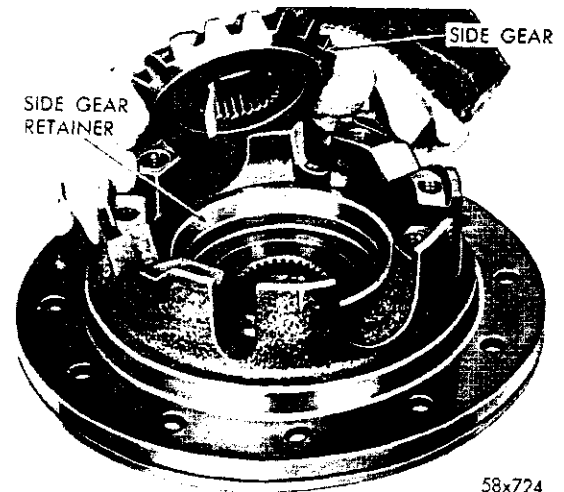
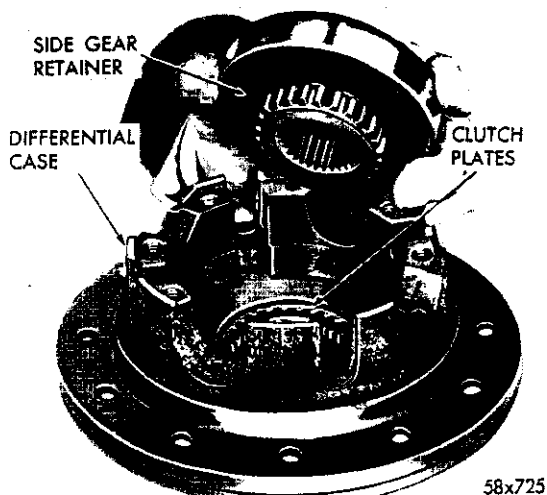
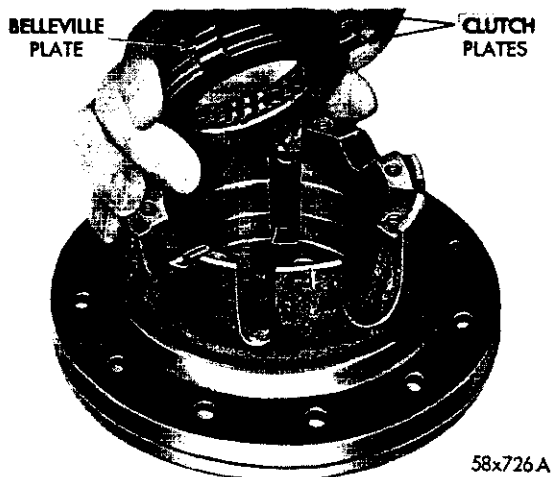

Fig. 39—Removing the Side Gear from Differential Case
Fig. 40—Removing the Side Gear Retainer
Fig. 41—Removing the Clutch Plates
(5) Remove the remaining side gear (Fig. 39), side gear retainer (Fig. 40) and clutch plates (Fig. 41).
(6) Remove the axle shaft thrust spacer by pressing out the lock pin.